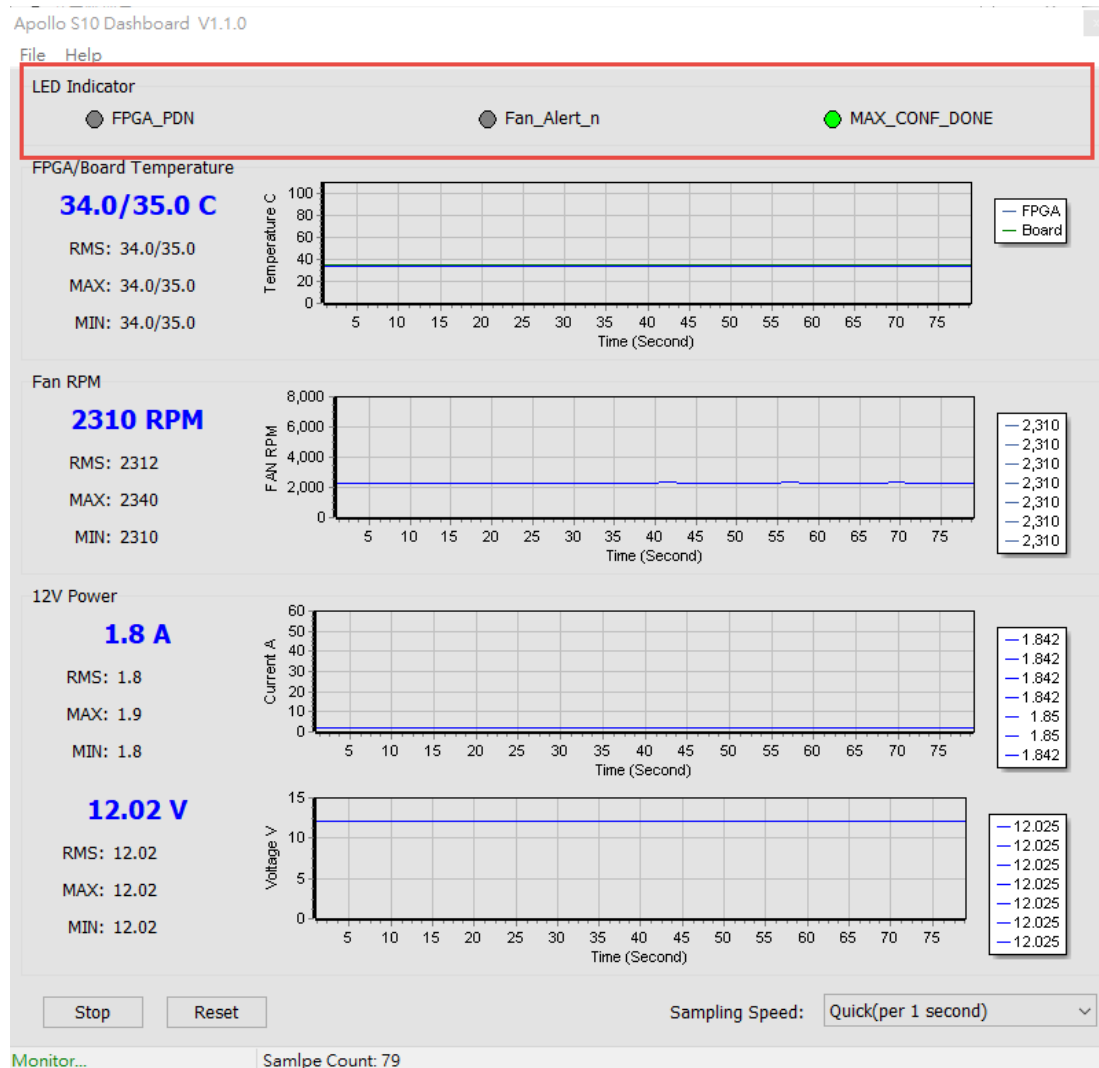

Figure 4-8 FPGA Status section
- **FPGA Status:** As shown in Figure 4-8, it will show the status LED number on the Apollo S10 board. For these LEDs function, please refer to section 2.2. **Note that** “**MAX\_CONF\_DONE**” stands for FPGA configure done status. There is no LED on Apollo S10 board to display status. When this status is shown in green on the GUI, it means that FPGA configuration has been completed.